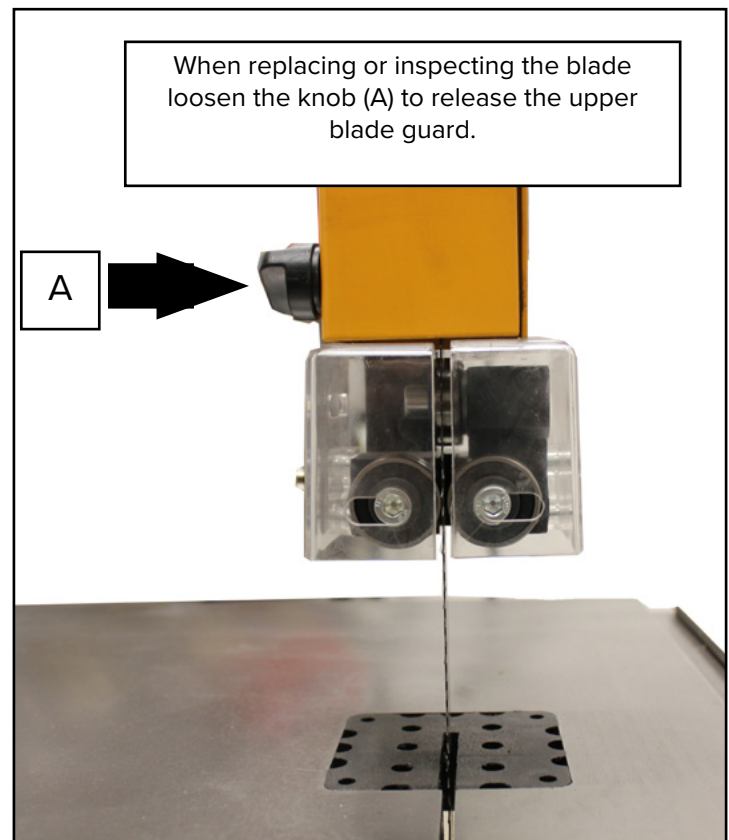

Figure 18: Blade Guard lock knob.
- Loosen the guidepost lock knob Fig. 18 (A).
- Turn the guidepost handwheel Fig. 18 (B) to raise or lower the guidepost/upper blade guide assembly to the desired height.